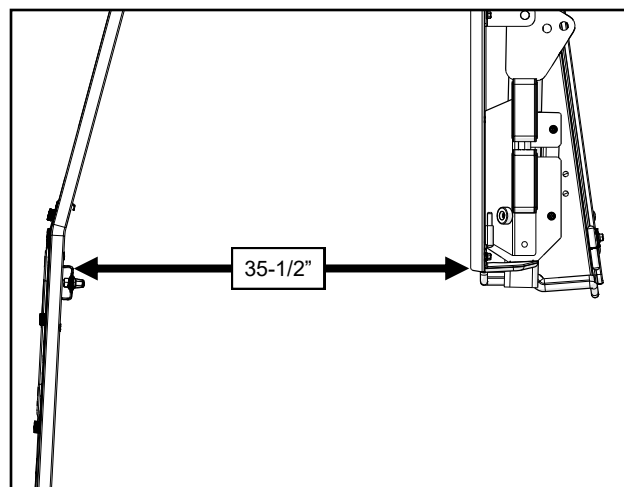

Fig. 9.2 (Align A-Pillar and Rear Legs)
9.2 Measure the distance from the striker bracket to the front edge of the rear legs as shown in figure 9.2. Adjust the A-pillars, rear legs, and ROPS brackets to get as close to 35-1/2" as possible.